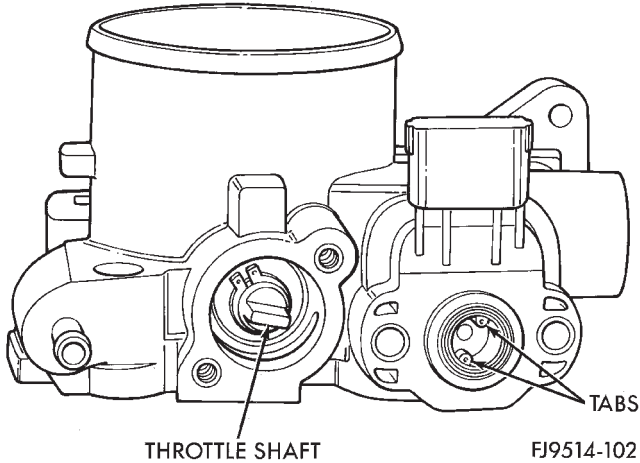

Fig. 71 Indexing Throttle Position Sensor—2.5L Engine
- (1) The throttle shaft end of the throttle body slides into a socket in the TPS (Fig. 71). The socket has two tabs inside it. The throttle shaft rests against the tabs. When indexed correctly, the TPS can rotate clockwise a few degrees to line up the mounting screw holes with the screw holes in the throttle body. The TPS has slight tension when rotated into position. If it is difficult to rotate the TPS into position, install the sensor with the throttle shaft on the other side of the tabs in the socket. Tighten mounting screws to 2 N·m (17 in. lbs.) torque.
- (2) After installing the TPS, the throttle plate should be closed. If the throttle plate is open, install the sensor on the other side of the tabs in the socket.
- (3) Install throttle body to intake manifold. Refer to throttle body in this section.
- (4) Attach electrical connectors to idle air control motor and throttle position sensor.
- (5) Install EVAP purge hose to throttle body nipple.